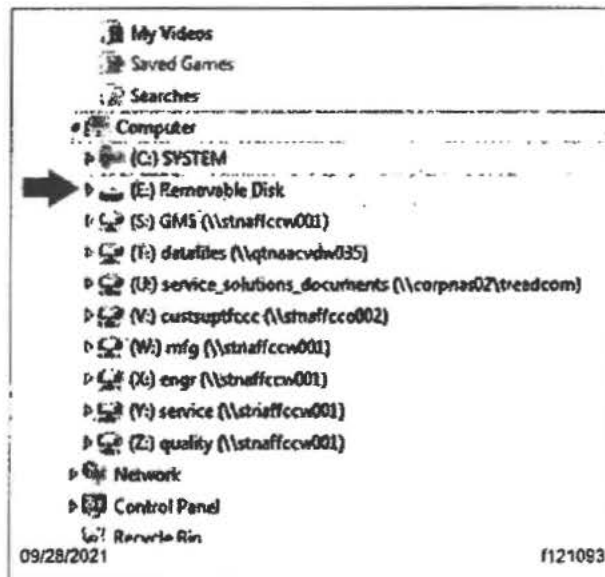

**Fig. 1, Flash Drive Connected to the Laptop**
2. Insert the flash drive into an available USB port on the laptop. Write down the drive letter the computer assigns to that flash drive. See Fig. 1.